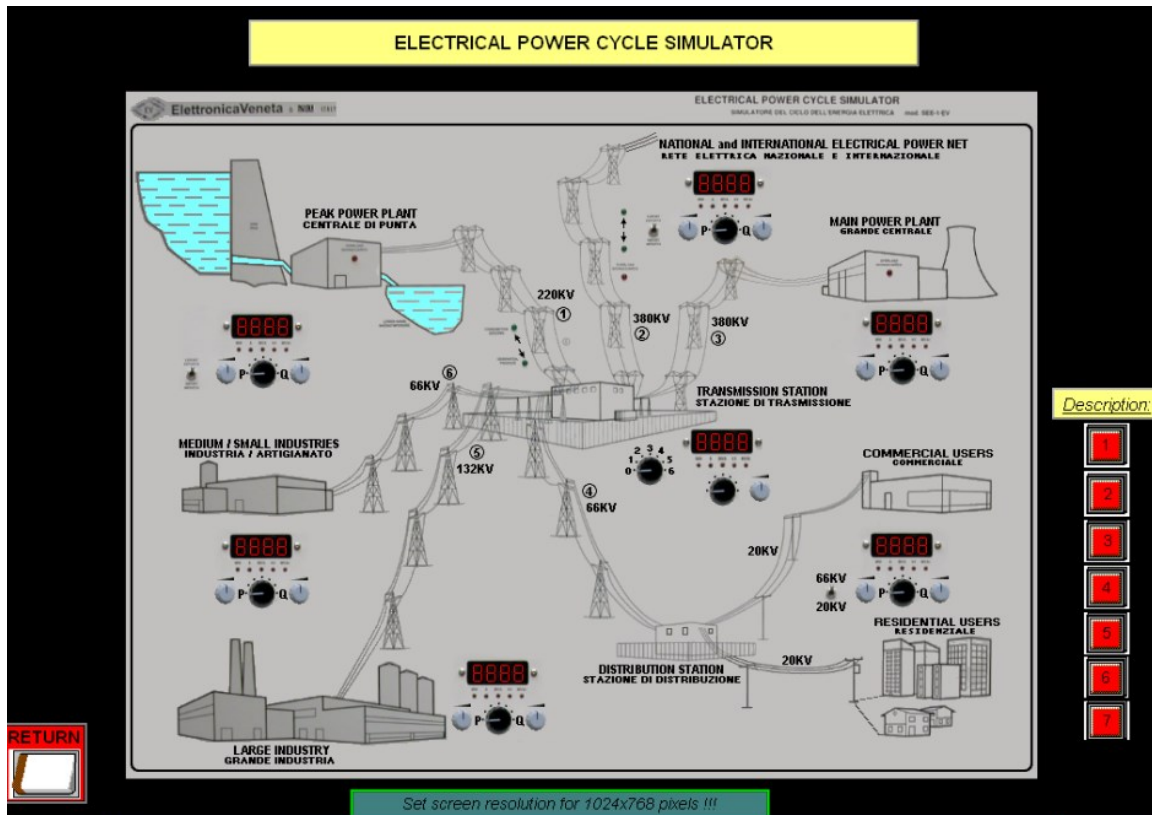

Figure 9.3 Electrical power cycle simulator
1. Pressing GREEN buttons under general information, will display the following figure 9.3